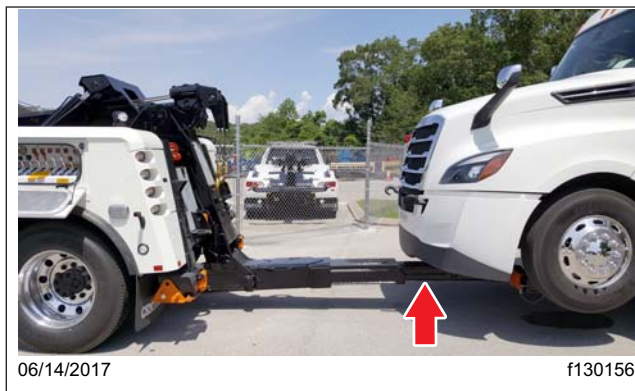

Fig. 13.12, Retracting the Recovery Boom
12. Remove the tow cables from the tow hooks and retract the recovery boom. See Fig. 13.12.